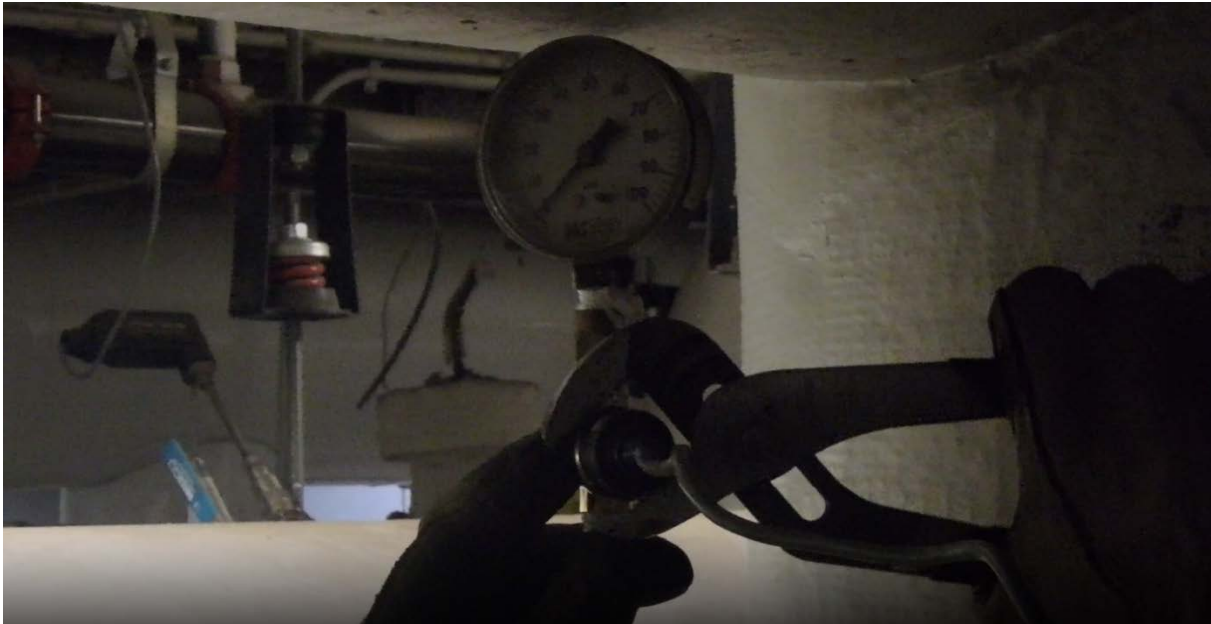

Figure A.9.16: Securing the Onset HOB0 Gauge Pressure Sensor to the tee with pipe wrench pliers.
11. Hand screw in the Onset HOB0 Gauge Pressure Sensor until it does not fall off the tee. Then, use the pipe wrench pliers in order to secure the connection as shown on Figure A.9.16.